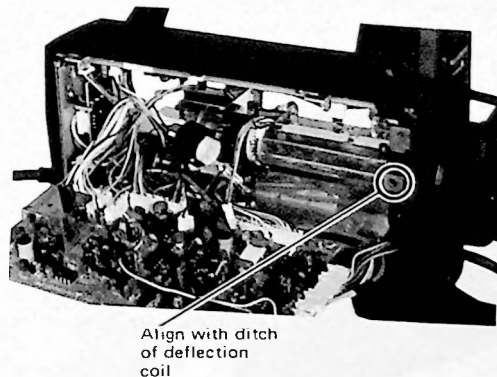

Fig. 3-11
- Align the ditch on the front portion of the deflection coil with the hole for the backfocus adjusting pin by moving the deflection coil. (Fig. 3-11)